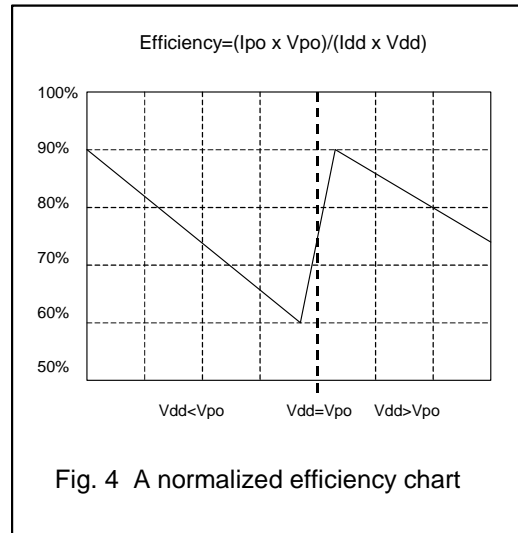

Fig. 4 A normalized efficiency chart
3) $Epo = (Ipo \times Vpo) / (Ildo \times Vdd)$, See Fig. 4.